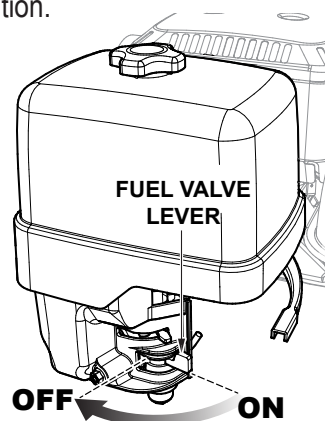

Figure 17. Engine Fuel Valve Lever (OFF)
3. Place the engine fuel valve lever (Figure 17) in the **OFF** position.